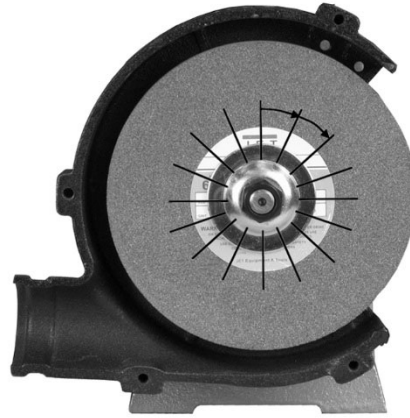

Figure 9-2: wheel balancing
2. If wobble still exists, continue repeating step 1, rotating outer flange incrementally in the same direction. See Figure 9-2. Make sure to keep the wheel in same position each time.